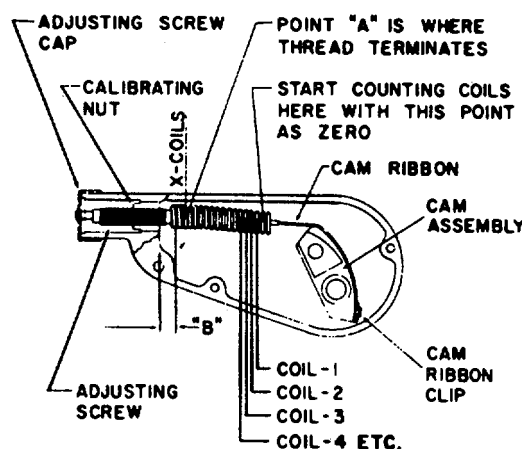

Figure 5-1. Governor Calibration
1. Install the speed adjusting screw (9). Turn screw with wrench 24283 to obtain 10 active coils as shown in figure 5-1.
2. Remove wrench 24283 and insert wrench 25264 to engage nut on adjusting screw. Using wrench 24283 to hold screw from turning, turn wrench 25264 to obtain 3/32 inch dimension B (see figure 5-1). Remove wrenches.